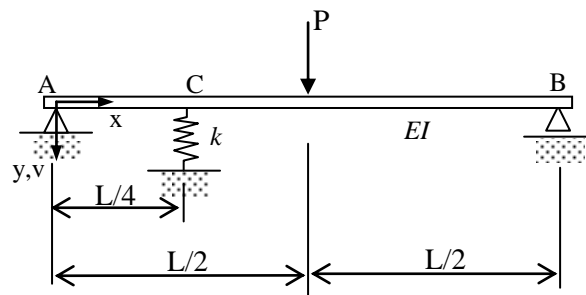

Figure 2
2. (b) Figure 2 shows a simply supported beam with an elastic spring prop at point C. The beam is subjected to a point load P acting at the mid-span. The following expression for lateral displacement field v has been suggested :